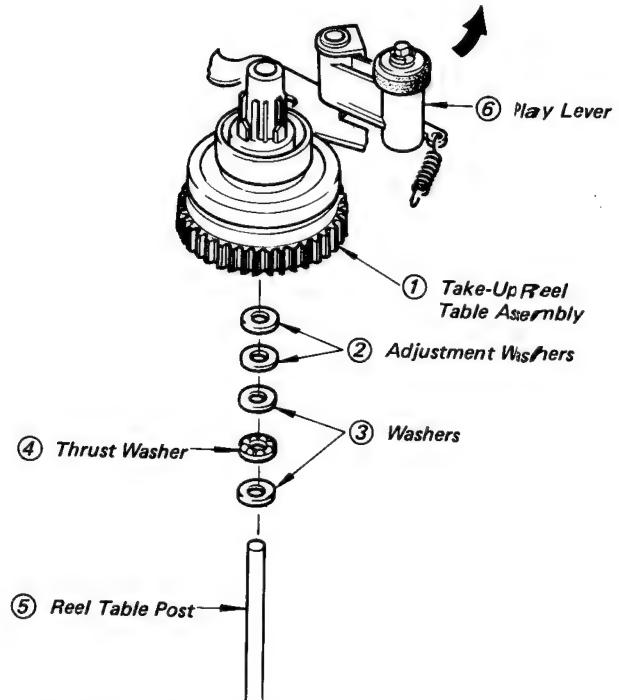

Fig. 5-43 Take-Up Reel Table Assembly Removal
6. Turn and hold the play lever ⑥ in the arrow direction ( $\curvearrowleft$ ) in Fig. 5-43.
7. Lift the take up reel table assembly ① straight up. (see Fig. 5-43).
8. Take out any of the adjustment washers ②, washers ③, and thrust bearing ④, if stucked by oil, from the bearing of the take up reel table assembly ①.
9. Wipe the reel table post ⑤ to clean using isopropyl alcohol.
10. Wait for the reel table post ⑤ to dry, and then apply a few drop of oil to it.
11. Reassemble the take up reel table assembly ① by reversing Steps 1 through 10.